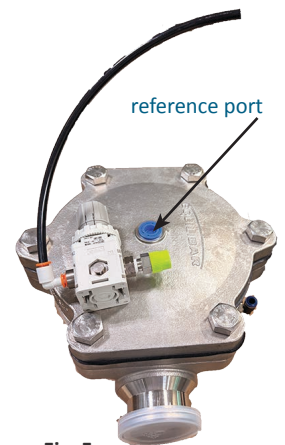

Fig. 5
1. The Equilbar EVR-IC and pilot regulator arrive ready to use (**Fig. 5**)